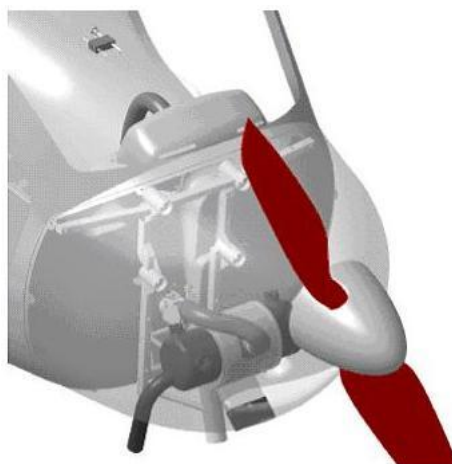

Fig. 1
1. Remove the cowlings to get access to the lower part of the firewall forward. Fig. 1.